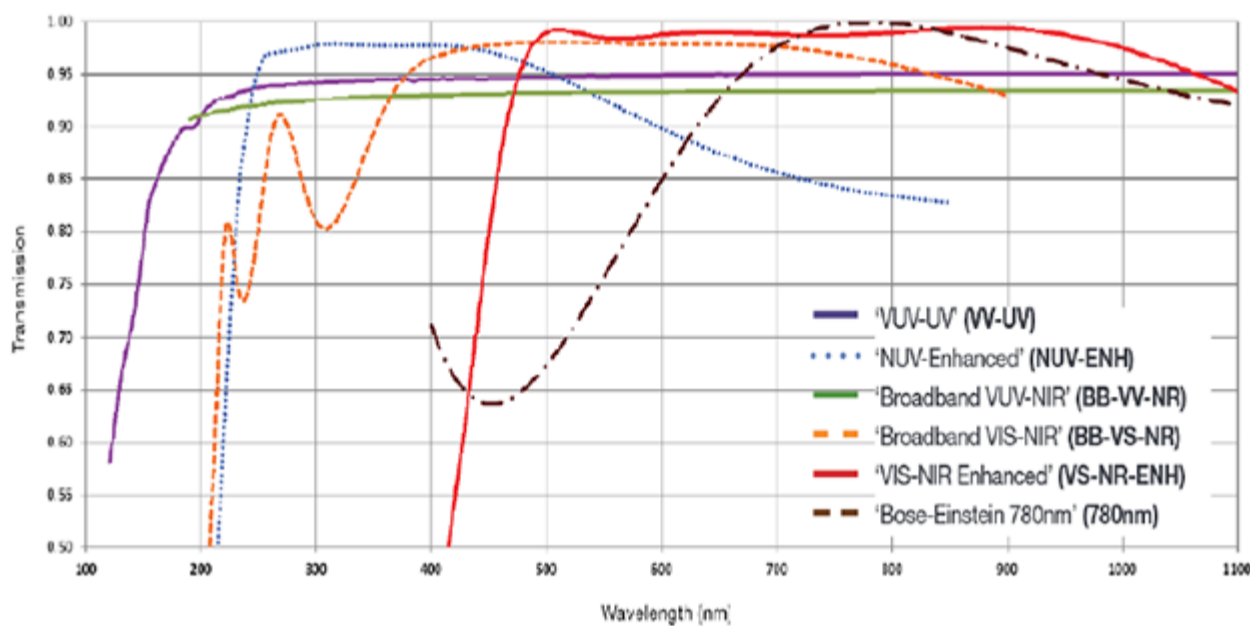

Figure 1: Transmission curves for different window options showing the optimized spectral regions over which the window is most appropriate.
Figure 1 shows the transmission curves for the different window options available. Two of these correspond to the raw Magnesium Fluoride (MgF₂) and UV Grade Fused Silica (FS) substrates with no AR coatings and the others are for windows with optimized AR coatings on both sides of the substrate. The meaning of the descriptive codes used is explained in Table 1.
Table 1: Summary of the different types of window option available corresponding to the transmission curves shown in figure 1. The Symbols Key at the bottom summarizes the abbreviations used.
The corresponding transmission curve is shown in Figure 1 as a solid red line and labelled "VIS-NIR Enhanced". A summary of the dimensional data and wedge characteristics for each window is given in Table 3 and Figure 3 of Appendix B. Figure 2 summarizes the options possible for constructing a code to specify a particular window. An example is illustrated for a window which may be used with the Newton camera for optimization across a broad visible to near-infrared range – 'Broadband VIS-NIR', and which is wedged to minimize any chances of etaloning: the corresponding new window code would be: 'WN45FS(BB-VS-NR)W'.
2. Refer to the transmission curves – Figure 1 – for the different window options.
- If the window needed is the standard (S) window– then just select the camera model as indicated on the Specification Sheet.
- If another window option (O) is needed– then a separate line item is needed on the order detailing the option as per the options presented in the Camera Specification Sheet. The separate line items corresponding to the options can be entered automatically when constructing a PO or quotation.
- If the required window is not available as a standard (S) or an option (O) – then a CSR will need to be raised. The specific requirements should be outlined when raising the CSR request and creating the CSR ticket. It is recommended that one discusses the detail with an Applications Specialist at this point.